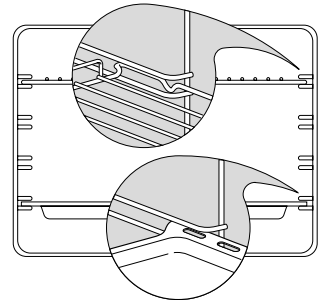

Fig. 27 Correct position of shelves and pan
- Put in the shelves and trays. If you are not using the sliding shelf supports, then slide in the shelves and grill pan as shown in Fig. 27. Fit them between the metal runners, with the safety stop notch down and at the back. (If the shelf supports and catalytic panels are not already fitted, see 'Care and cleaning' for how to do this).